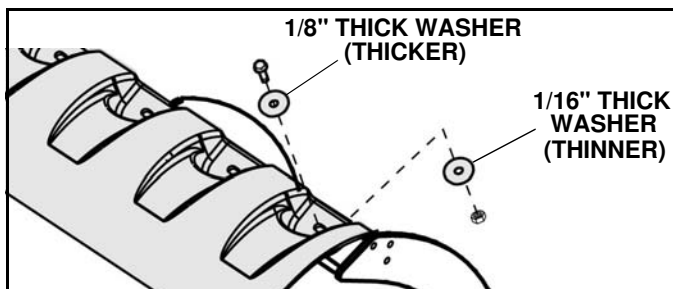

Figure 1-2
4. With all deflector sections clamped in place on the blade, install one cap screw (p/n 98100253) and 1/8" thick fender washer (p/n 98100484) through the holes in the outer deflectors and blade. Loosely install a 1/16" thick fender washer (p/n 98100485) and locknut (p/n 98100255) on both screws. (See Figure 1-2).